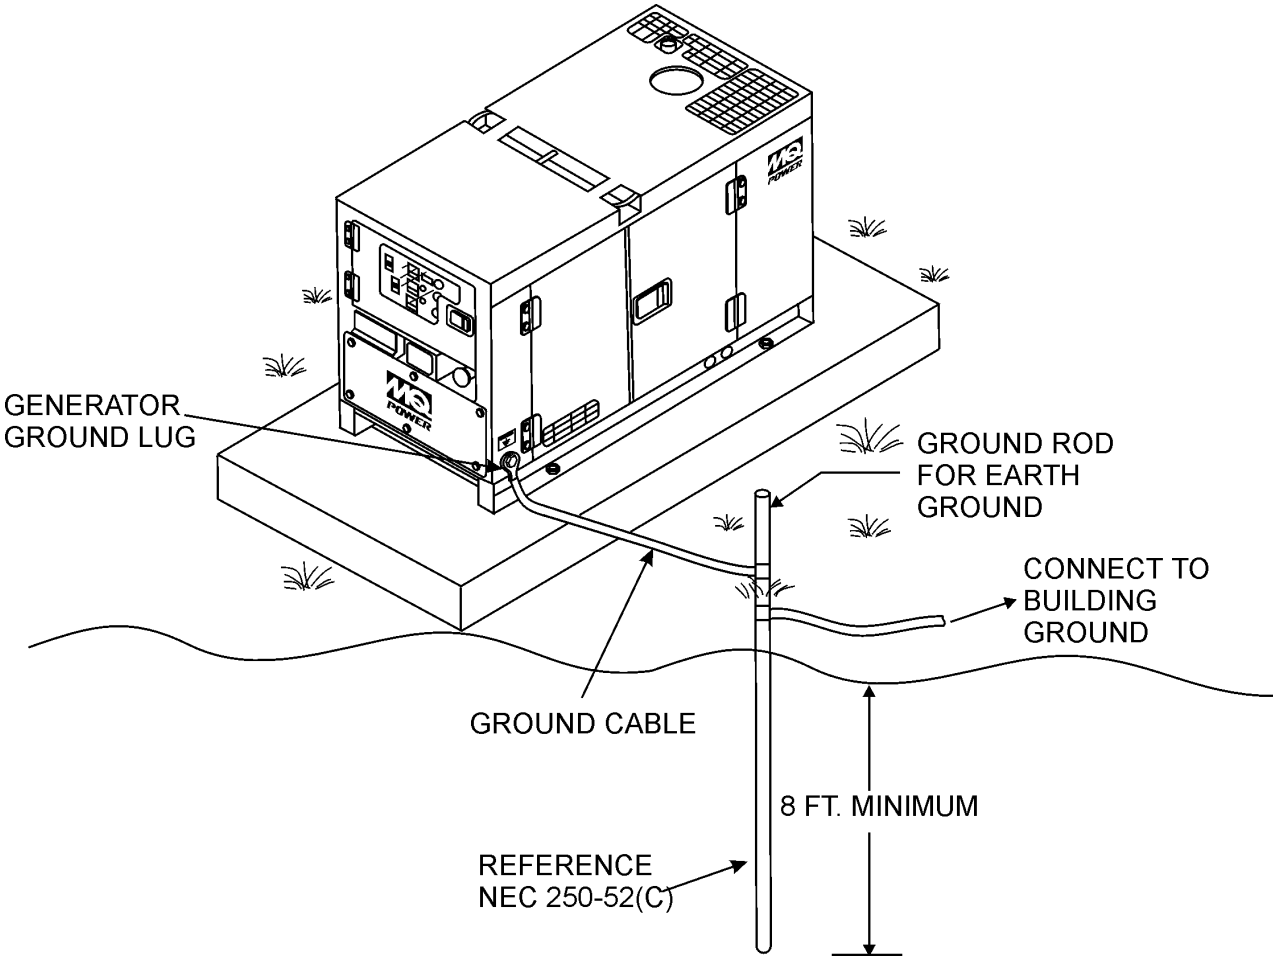

Figure 28. Typical Generator Grounding Application
2. When grounding the generator (Figure 28) connect the ground cable between the lock washer and the nut on the generator and tighten the nut fully. Connect the other end of the ground cable to earth ground.